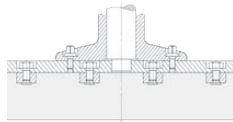

Figure 2
- Fig. 2: Grinding wheel with inserted nuts